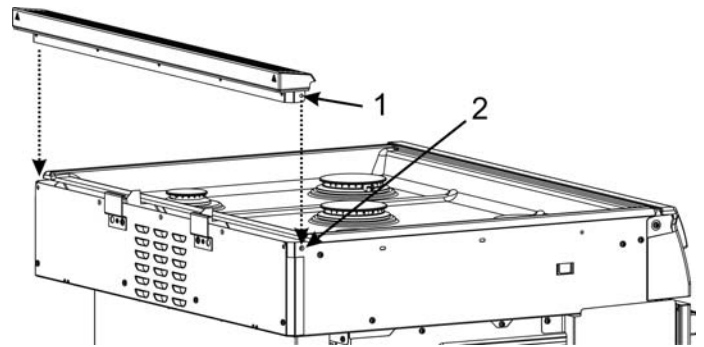

Figure 2: Island Trim placement
6. Lower the Island Trim into place, aligning the Island Trim hole 1 with the hole at 2 on both sides of the range. See Figure 2: Island Trim placement.